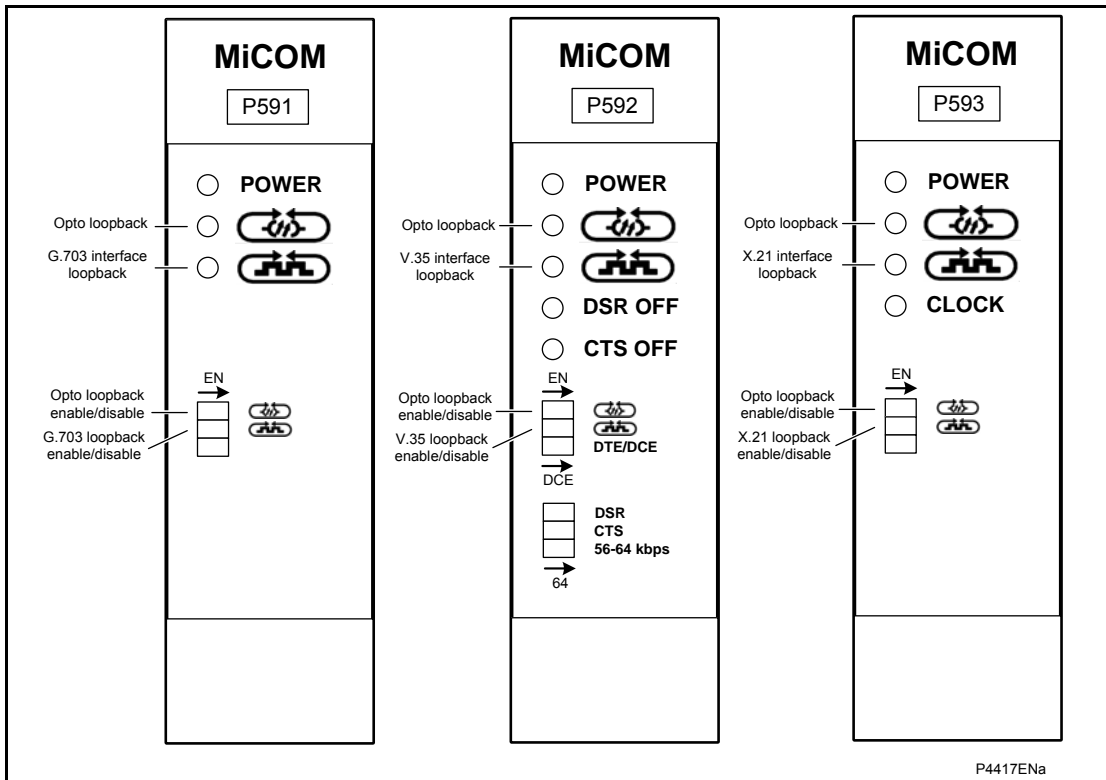

Figure 1 P591, P592, P593 front panels
At power up the green **POWER** LED goes ON and stays ON, showing that the P591 is healthy. See Figure 1.
To test the other four LEDs, use the switches on the unit's front panel. See Figure 1.
1. To electrically connect the receive and transmit optical ports, set the **OPTO LOOPBACK** switch to **Enable**. This allows the optical fiber communications between the P54x relay and the P592 to be tested, but not the internal circuitry of the P592. See Figure 1.